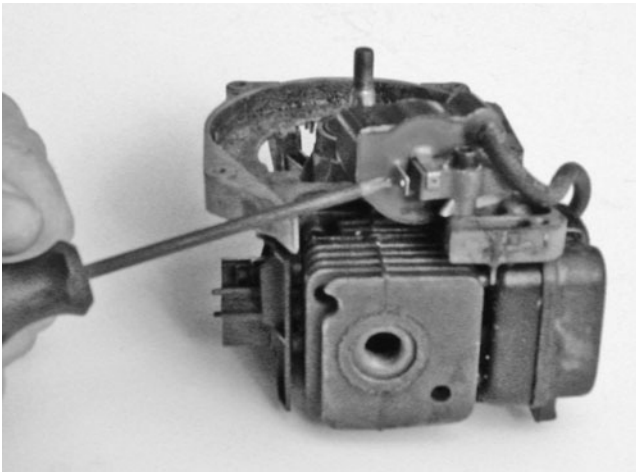

FIG. 2-6. *The screwdriver points to connection on the ignition coil for the kill switch.*
- A short in the wiring going to the kill switch or another problem with the primary circuit that sometimes includes safety interlocks, which are notoriously unreliable. Test the integrity of this circuit by cranking with the kill-switch wiring disconnected from the ignition module (Fig. 2-6). Do the same for lights and other electrical components that may be present.